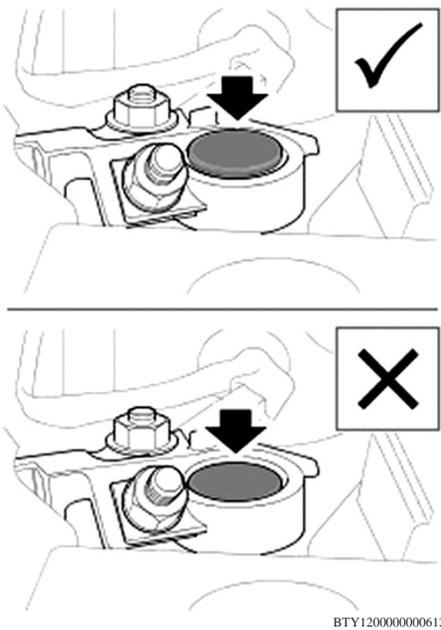

Fig. 3 Battery terminal installation
5. Connect battery positive cable first, then connect battery ground cable. Verify that battery clamps are correctly positioned on terminals when installed, **Fig. 3**.